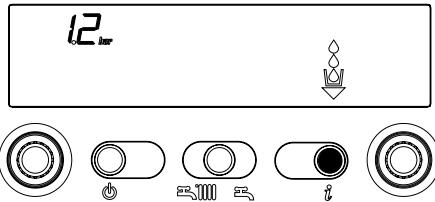

Fig.4
Info 2 water pressure (fig. 4)
3.1 HOW TO TOP-UP THE SYSTEM PRESSURE (fig. 4)